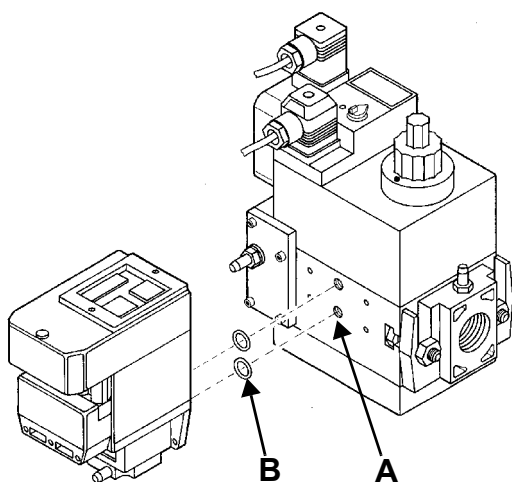
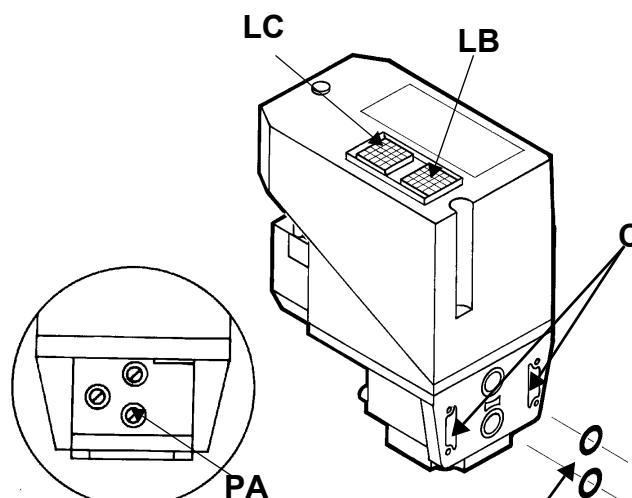

Fig. 1
Fig. 2
- 3 remove the Multibloc's screw plugs (Fig. 1-A);
- 4 insert sealing rings (10,5 x 2,25) into VPS 504 (Fig. 2-B, Fig. 1-B)
- 5 Torque screws 3, 4, 5, 6 (M4 x16) Fig. 1-C
When wishing to monitor the test, install a pressure gauge ranged to that of the pressure supply point **PA** (Fig. 2). If the test cycle is satisfactory, after a few seconds the consent light **LC** (yellow) comes on. In the opposite case the lockout light **LB** (red) comes on. To restart it is necessary to reset the appliance by pressing the illuminated pushbutton **LB**.